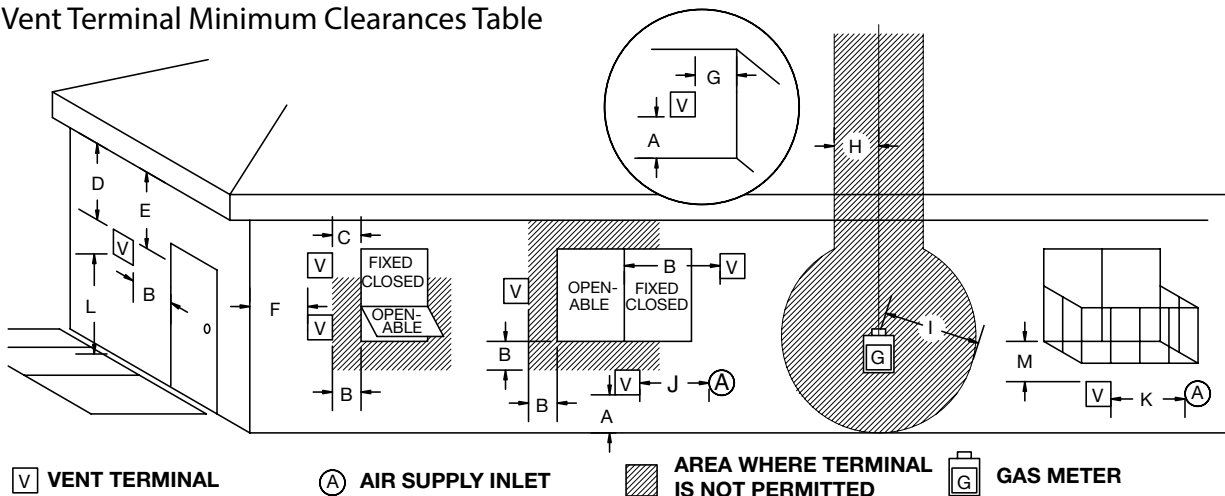

Figure 3: Vent terminal minimum clearances.
1. Locate the power vent termination following the clearance to combustible table, venting configuration diagram (Figure 1) and terminal location diagram (Figure 3).